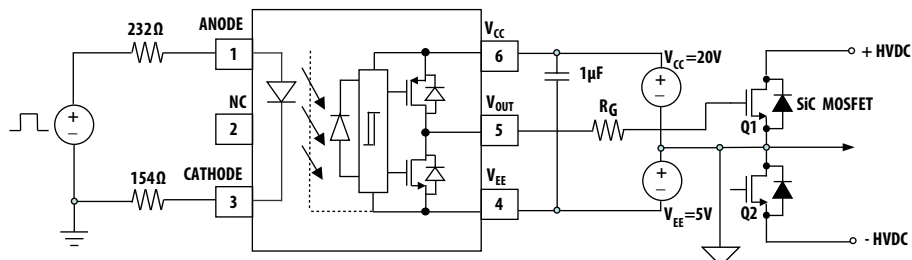

Figure 14. Recommended application circuit with split resistors LED drive.
The recommended application circuit shown in Figure 14 illustrates a typical gate drive implementation using the ACPL-P347/W347.
Step 1: Calculate R_G minimum from the I_{OL} peak specification. The SiC/GaN MOSFET and R_G in Figure 14 can be analyzed as a simple RC circuit with a voltage supplied by ACPL-P347/W347.
The ACPL-P347/W347 includes a Propagation Delay Difference (PDD) specification intended to help designers minimize "dead time" in their power inverter designs. Dead time is the time period during which both the high and low side power transistors (Q1 and Q2 in Figure 14) are off. Any overlap in Q1 and Q2 conduction will result in large currents flowing through the power devices between the high and low voltage motor rails.